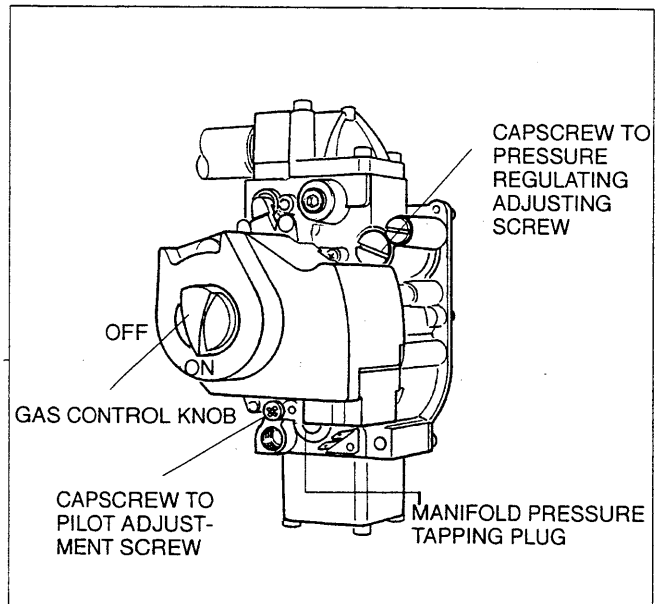
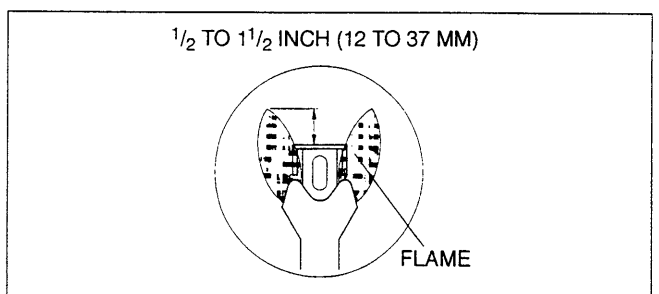

Fig.9
Fig.10
- 45 After adjustment, install the capscrew on the gas control, fig.9.
- 46 Observe the pilot flame through hole in the burner assembly plate. The flame should envelop the flame sensor $\frac{1}{2}$ - $1\frac{1}{2}$ inch, fig. 10. If the pilot flame is satisfactory then go to step 47. If the pilot flame is too small or too large, adjust the pilot using the pilot adjustment screw., fig. 9. Turn the inner adjustment screw clockwise  to decrease, or counterclockwise  to increase the pilot flame. After adjustment, replace the cover screw and tighten firmly.